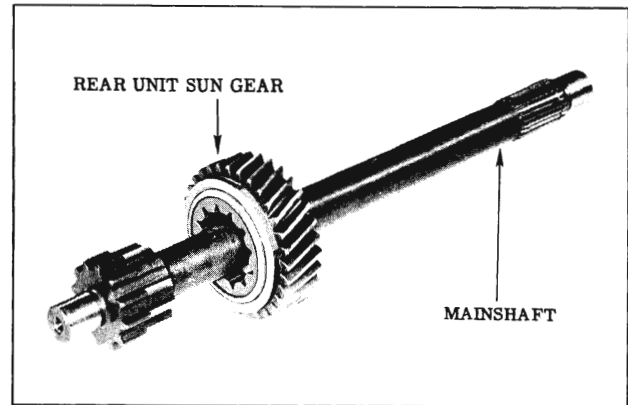

Fig. 3-36 Sun Gear Removal
12. Remove sun gear from main shaft. (Fig. 3-36)